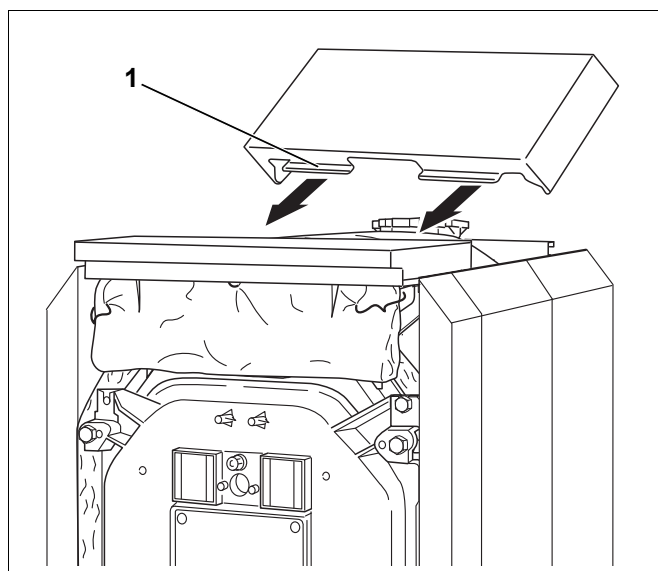

Fig. 53 Installing the central cover
- Slide the edges of the central boiler cover (Fig. 53, **[1]**) underneath the front boiler cover and insert into the flange of the side panels.